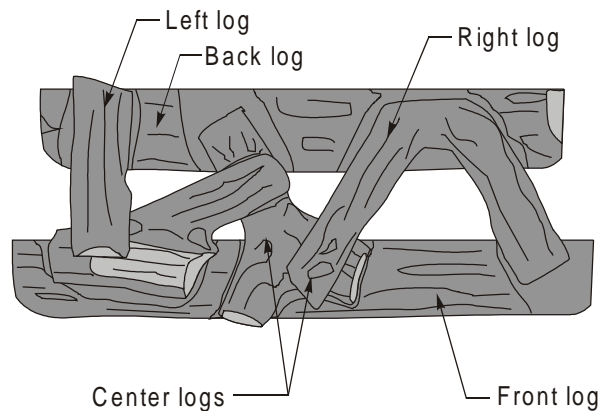

Figure 24b. Proper top log placement (top view).
4. Place the top logs in position as shown in figures 24b and 24c.